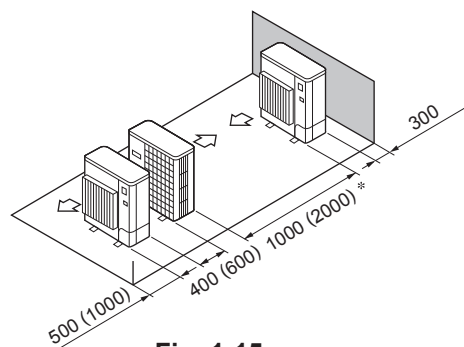

Fig. 1-15
- ⑤ Single parallel unit arrangement (Fig. 1-15)